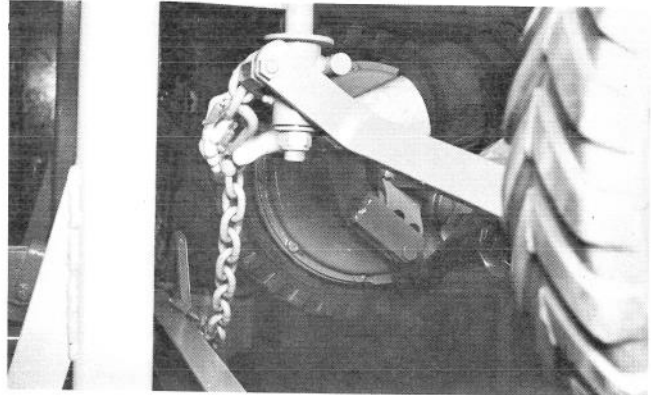

Figure 19
Your Parkmaster frame is equipped with five (5) safety chains; one each for mowers 4, 5, 6, 7, and one between 8 & 9. These chains should be used when the unit is in the transport position to prevent the mowers from accidentally being lowered when the tractor is traveling at high speeds. Figures 19, 22, 24 show the proper attachment to the mowers. The safety chains can be stored right on frame when not being used.